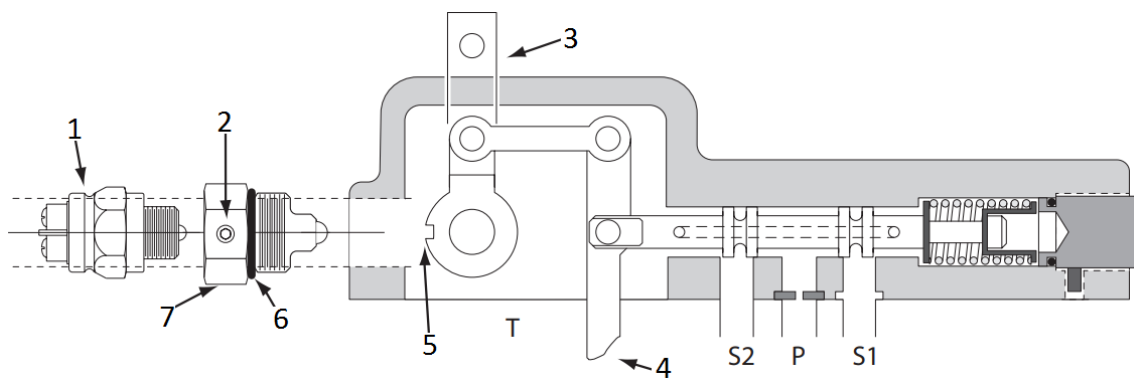

Figure 1-1
2. With the adapter installed, proceed and install the neutral lockout switch into the adapter, again refer to figure 1-1.
1. With the switch removed from the adapter, install the adapter into the control assembly, refer to figure 1-1.